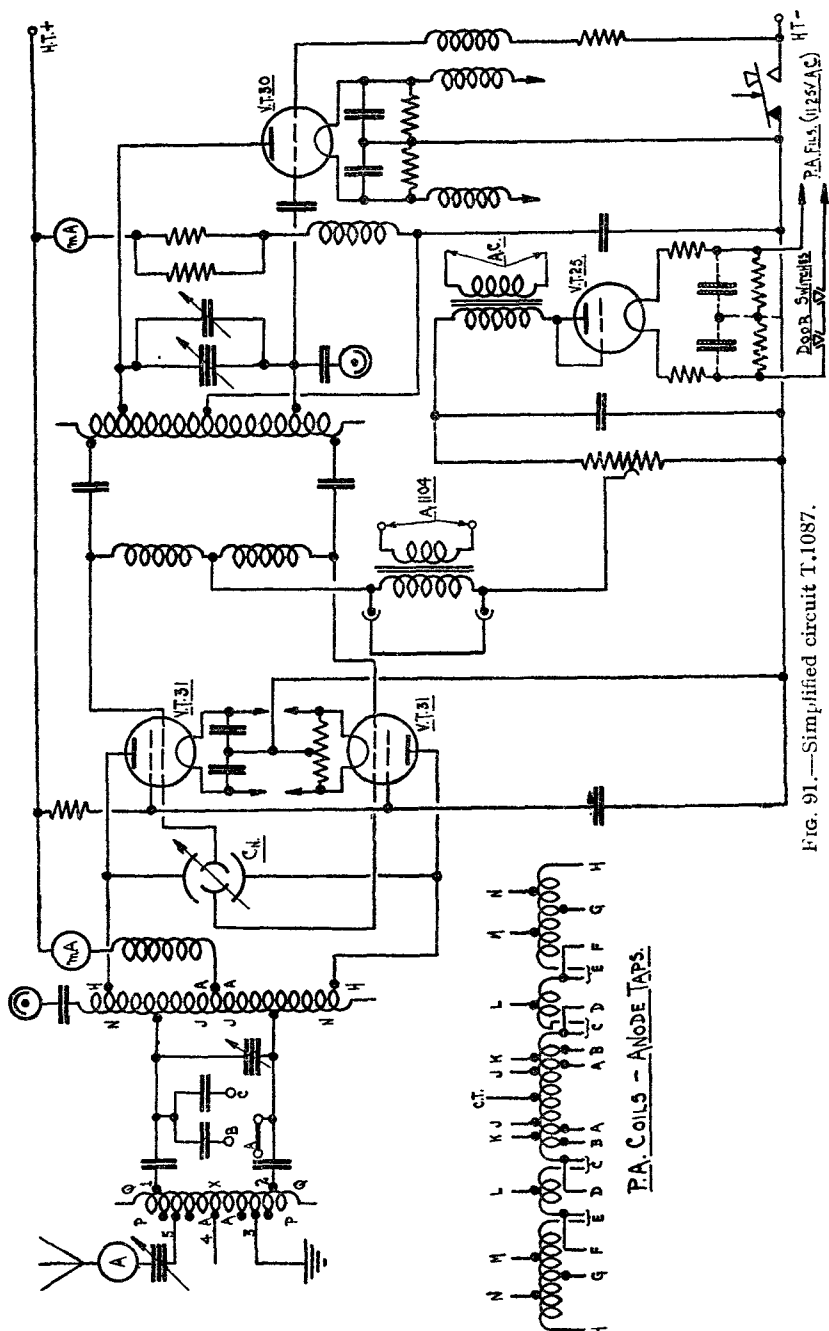

FIG. 91.—Simplified circuit T.1087.
6. Circuit (a simplified version in fig. 91).—Hartley M.O., tuned by variable condenser and three plug-in coils. M.O. capacity-coupled to a neutralised tetrode P.A. using two V.T.31's in push-pull. The P.A. is tuned by variable condenser and five tapped inductances, permanently fitted in the transmitter. The P.A. is capacity-coupled to the aerial matching transformer, which is tapped at every turn to work into aerial loads between 20 and 600 ohms.